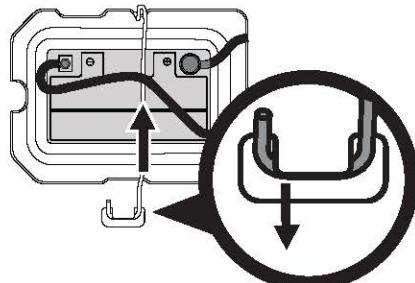

Figure 22
**NOTE:** Wiring harness should lay on top of battery hold down rod, otherwise damage to the wiring harness may result (Figure 22 on page 13).
3. Remove the battery hold down rod by pushing the hooked end out of the tab on the fender to the right side of the battery. Then flip the battery hold down rod up to free the battery (Figure 22).